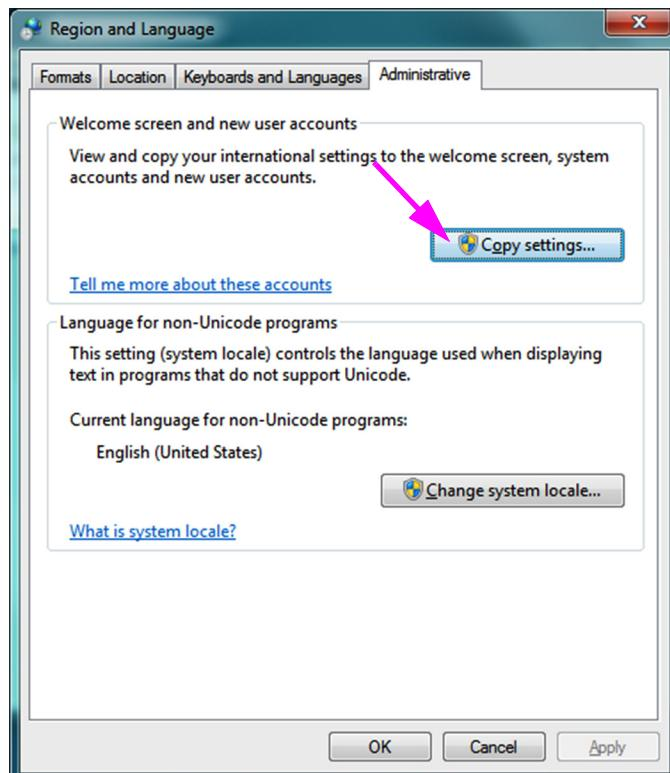

Figure C-16. Écran Region and Language (Région et langue) – Onglet Administrative (Administration)
6. Cliquez sur l’onglet **Administrative (Administration)**. L’onglet Administrative (Administration) apparaît (cf. Figure C-16).